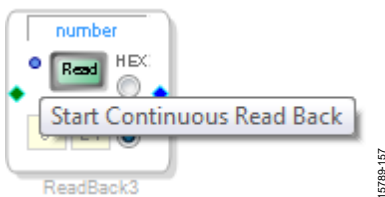

Figure 55. Activating Continuous Read Back
- ii. On each of the two **DSP Readback** blocks, click on the blue dot to the left of the **Read** button to read both blocks continuously (see Figure 55).